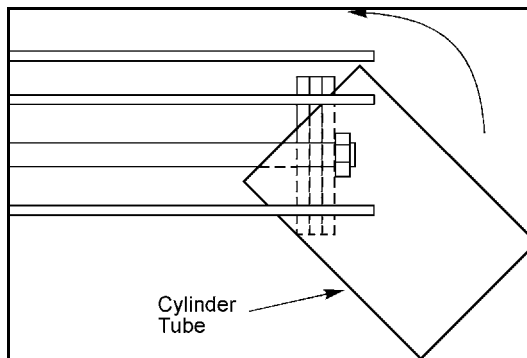

Figure 5— Cylinder Tube Installation
8. Slide the cylinder tube over the piston. Coat the piston seal and the inside of the cylinder tube with Dow Corning Molykote 44 grease. It will be easier to start the cylinder tube at a 45° angle then rotate the cylinder tube onto the piston. See Figure 5.